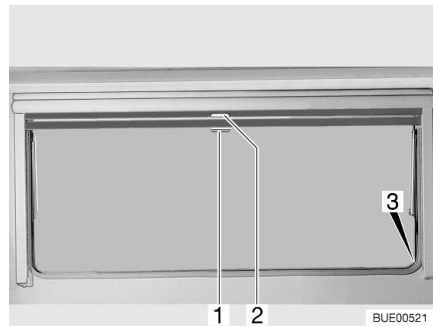

Fig. 26 Hinged window
- Pull blind at the handle (Fig. 26,2) downwards. If the blind is to be completely closed, it is suspended into the locking devices (Fig. 26,3) situated on both sides of the window frame.
- If the blind is completely closed: Press handle (Fig. 26,2) downwards and, at the same time, tilt it slightly inward. The blind can be taken out of the locking devices situated on both sides of the window frame.
- If the blind is in an intermediate position: Pull the handle (Fig. 26,2) slightly downwards until the locking device releases.
- Pull insect screen at the handle (Fig. 26,1) down and hang it into the locking devices (Fig. 26,3) situated on both sides of the window frame.
- Press handle (Fig. 26,1) downwards and, at the same time, tilt it slightly inward. The insect screen can be taken out of the locking devices situated on both sides of the window frame.